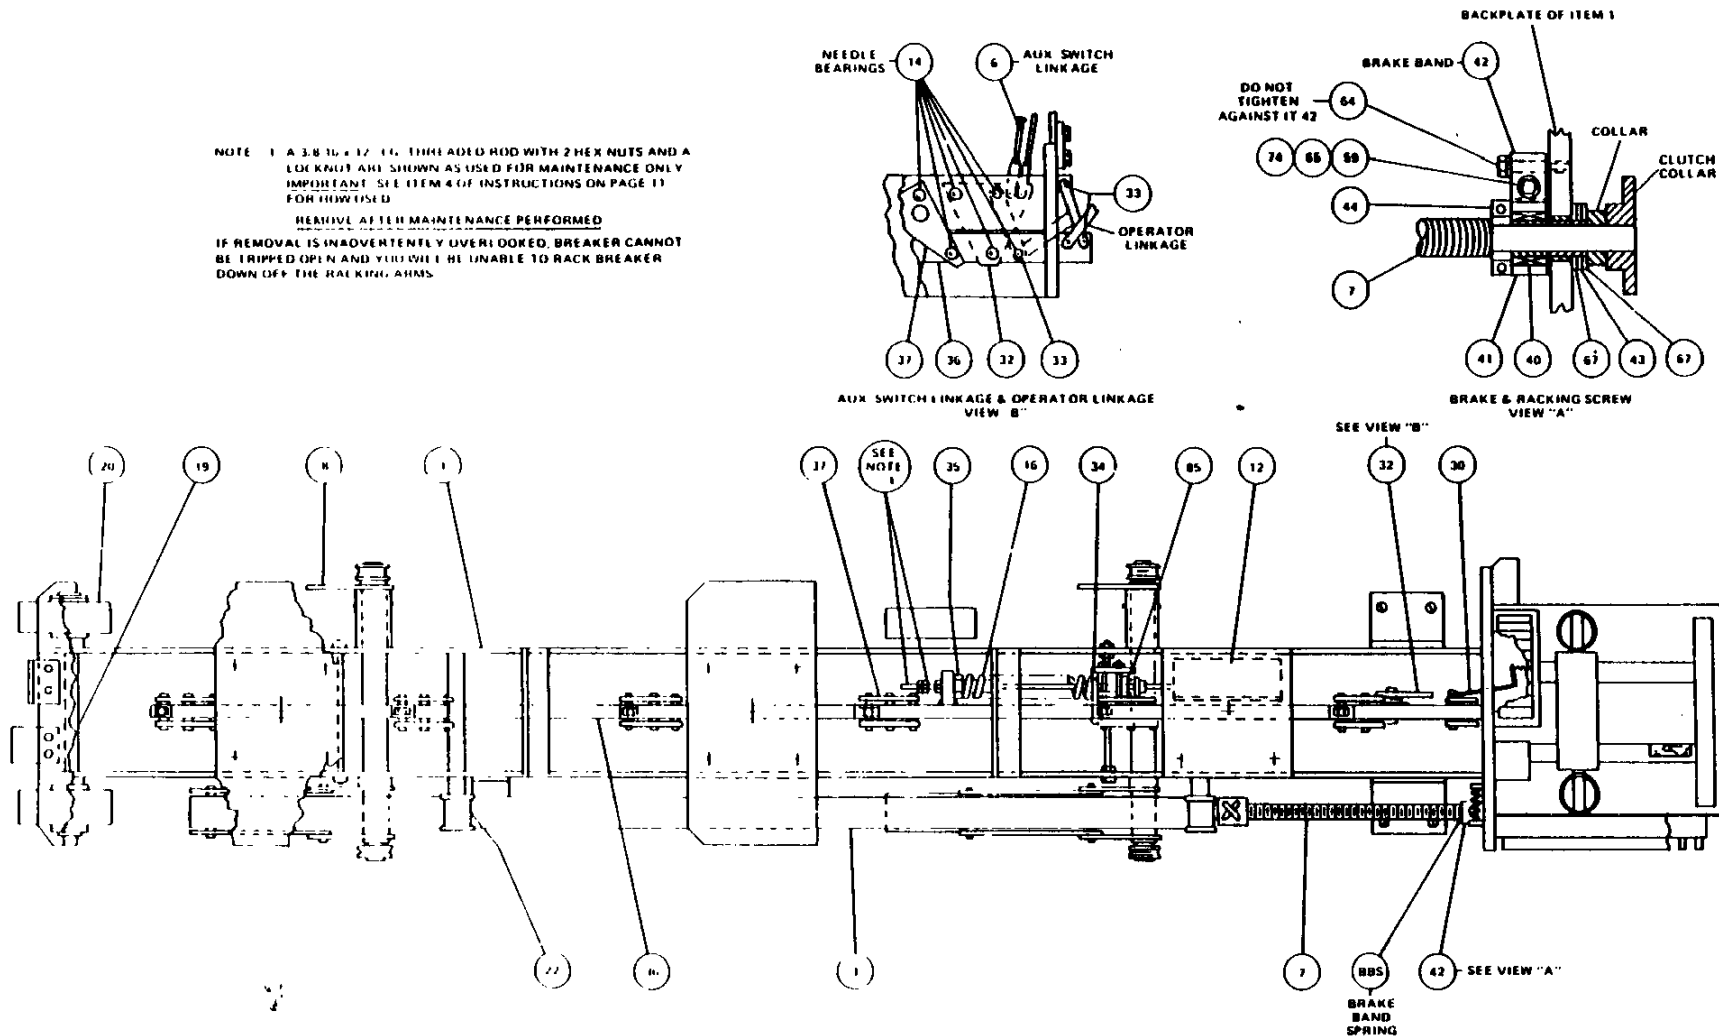

Fig. 5 - Truck Frame Assembly (Plan View)
BEFORE ANY MAINTENANCE WORK IS PERFORMED, MAKE CERTAIN THAT ALL CONTROL CIRCUITS ARE OPENED AND THAT THE BREAKER IS REMOVED FROM THE SWITCHGEAR UNIT. DO NOT WORK ON THE BREAKER OR MECHANISM WHILE IN THE CLOSED POSITION UNLESS THE BREAKER HAS BEEN LOCKED CLOSED PER FIG. 5, NOTE #1 TO PREVENT ACCIDENTAL TRIPPING. DO NOT WORK ON THE BREAKER OR MECHANISM WHILE THE CLOSING SPRINGS ARE CHARGED.
HYDRAULIC SHOCK ABSORBER (12, Fig. 5)
The shock absorber (12, Fig. 5) should require no adjustment unless an entire vacuum interrupter assembly is being replaced. However, at maintenance checks the shock absorber should be checked for any evidence of leaking and the mounting and assembly hardware should be checked for tightness. If evidence of fluid leakage is found, the shock absorber must be replaced. The shock absorber has a metered volume of fluid and field filling is not recommended.
3. With breaker in the open state, insert racking crank and rotate clockwise. This will drive the racking arms (8, Fig. 5) to the full vertical position. The breaker has now been elevated off the wheels and will be more stable when working on the breaker.
4. Close the breaker. When closed insert a 3/8"-16 x 12" long threaded rod through opening spring as shown for Note #1, Fig. 5. Screw the threaded rod into opening spring guide (34, Fig. 5) tightly. Run locknut up tight against opening spring holder (35, Fig. 5). Breaker is now locked firmly in the closed position so that it cannot be accidentally tripped open.